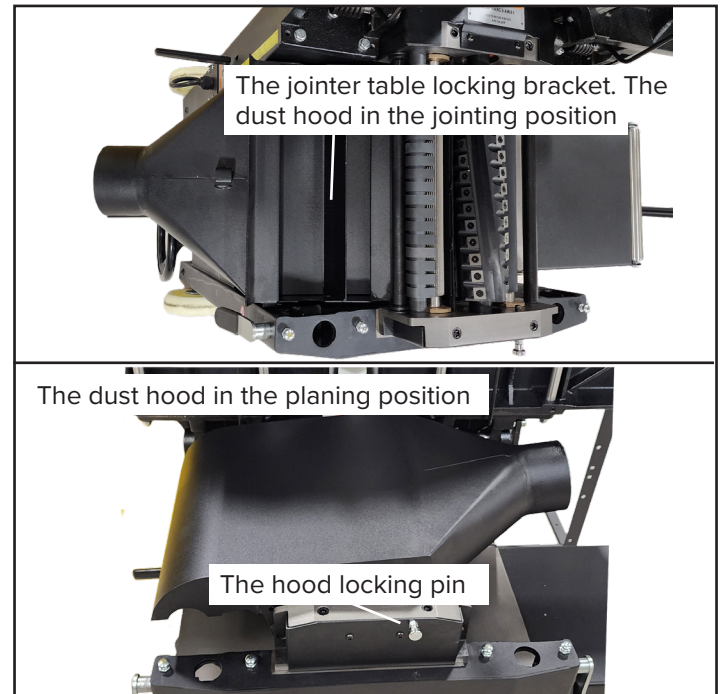

Figure 30: Pivoting dust shoot.
4. Pivot the Dust Chute #66, FIG.30 up and over the cutterhead where it will automatically lock in place with
1. To feed the workpiece into the machine, assume a proper operating position as in figure 30. Stand offset to one side of the feed opening to avoid any kick-back, should it occur. Do not push the lumber once the infeed roller has been engaged. Let the infeed roller move the workpiece into the planer at its own pace.